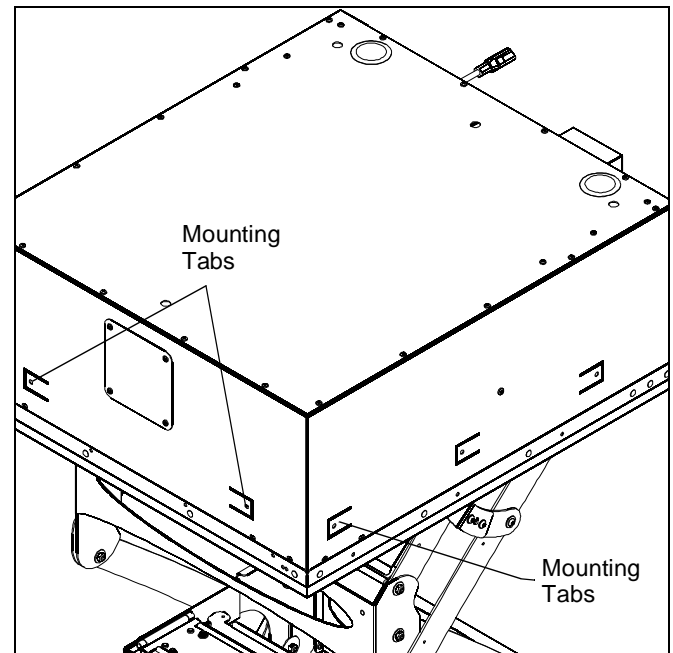

Figure 10
1. Use 1/4" x 1" (minimum) Grade 2 lag screws (not provided) to secure SL236FDi to the joists or wood framework, using the mounting tabs located on the sides of the SL236FDi housing. (See Figure 10).